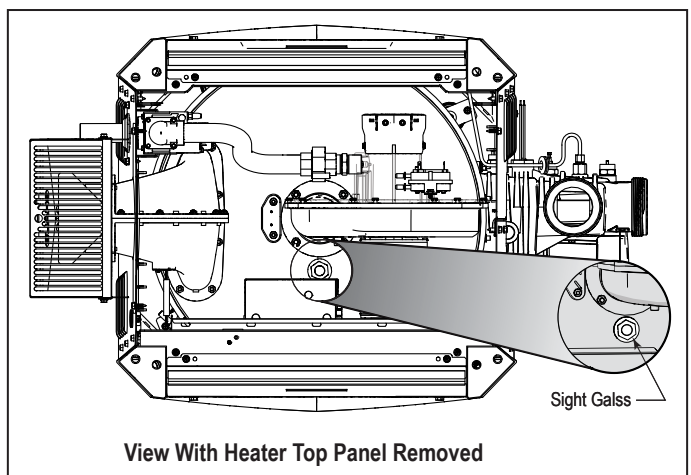

Figure 19. Remove Heater Top to View Sight Glass
- Visually check the main burner flame. Remove the top of the heater to inspect the sight glass. See *Figure 19*